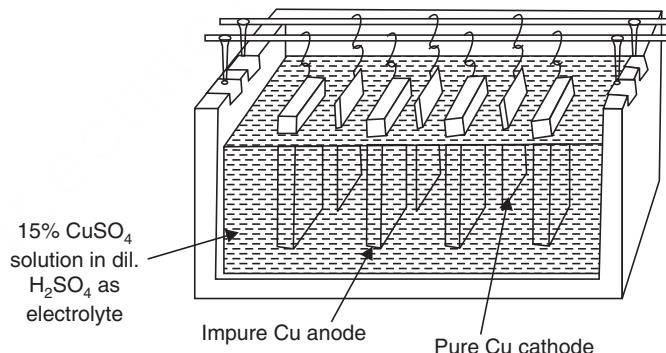

Fig. 14.13 Electrolytic refining of copper.
2. Electro-refining. This method is widely used. Usually an electrolytic cell is set up using thin sheets of pure metal as the cathode and comparatively thick impure metal slag as anode. The electrolyte used is an aqueous solution of a suitable salt. During electrolysis, pure metal from the electrolyte gets deposited on the cathode and the equivalent amount of metal from the anode passes into the solution. The impurities either remain in solution or are deposited down the anode. This deposit is known as **anode mud**. Sometimes some valuable metals are recovered from anode mud. A typical example of electrolytic refining is of copper (Fig. 14.13).
Powder metallurgy (Fig. 14.13) is a technique or operation or process to produce metallic or alloy articles. In this technique, the metal powders or alloy constituents are compacted in a die with melting or no melting followed by sintering. The simultaneous method of compacting and sintering is called *pressure sintering*.